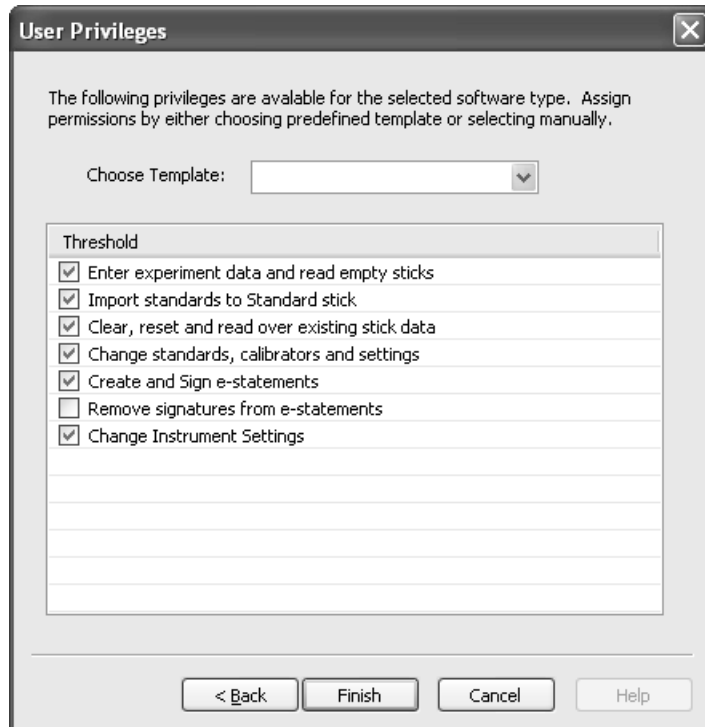

Figure 8-6: The User Permissions Screen
- 7) Click the **Next** button. This opens the **User Permissions** dialog (Figure 8-6).